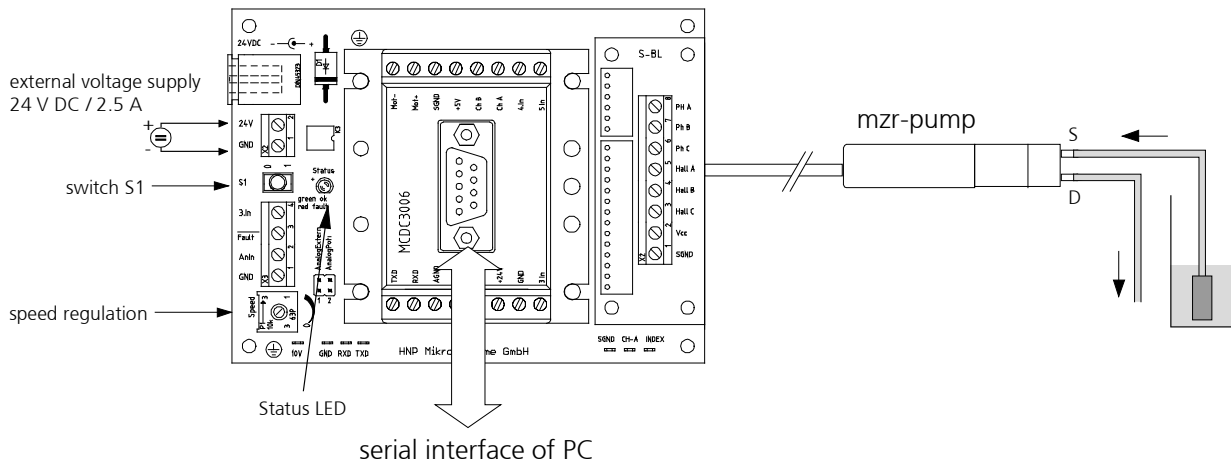

figure 31
By proceeding as shown in the diagram (see figure 31) you may prepare the pump for a longer standstill.
*Remark:* This diagram is repeated as a part of the figure 31 »Shutdown procedure«.